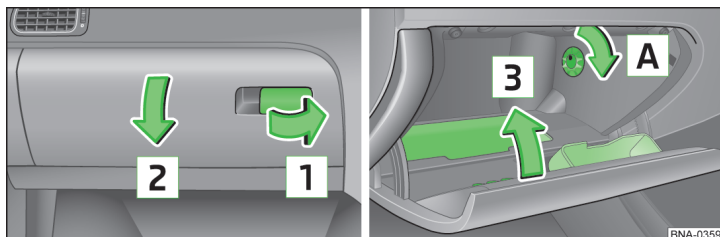

Fig. 46 Opening storage compartment / closing storage compartment and opening air supply
- To **open**, pull handle in the direction of arrow **1** and fold down the cover in the direction of arrow **2** » fig. 46.
- To **open**, turn the dial in the direction of arrow **A** until it stops » fig. 46.